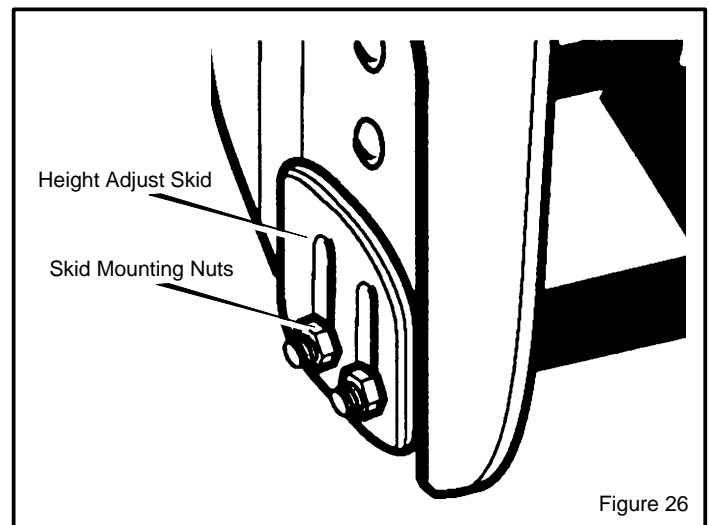

Figure 26
2. Loosen skid mounting nuts (Figure 26) and push the skid down until it touches the ground. Retighten mounting nuts.